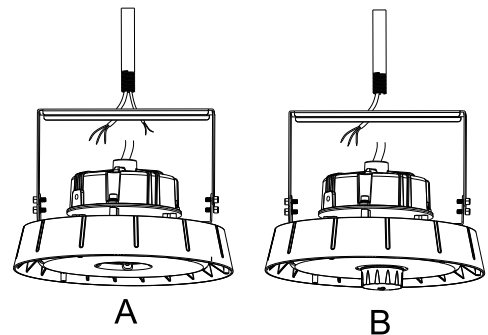

Figure 9
2. Insert 1/2" NTP stem into the bracket hole. (figure 9)